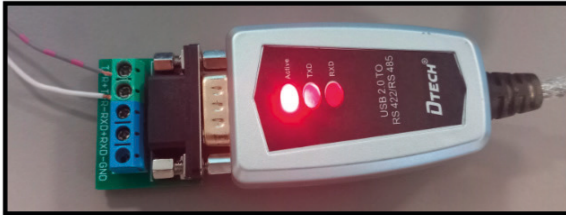

Figure 3
2. Connect the USB-A end to the USB port on your computer and then connect the RS485 connector to TX and RX of MLD as shown below (Figure 3)